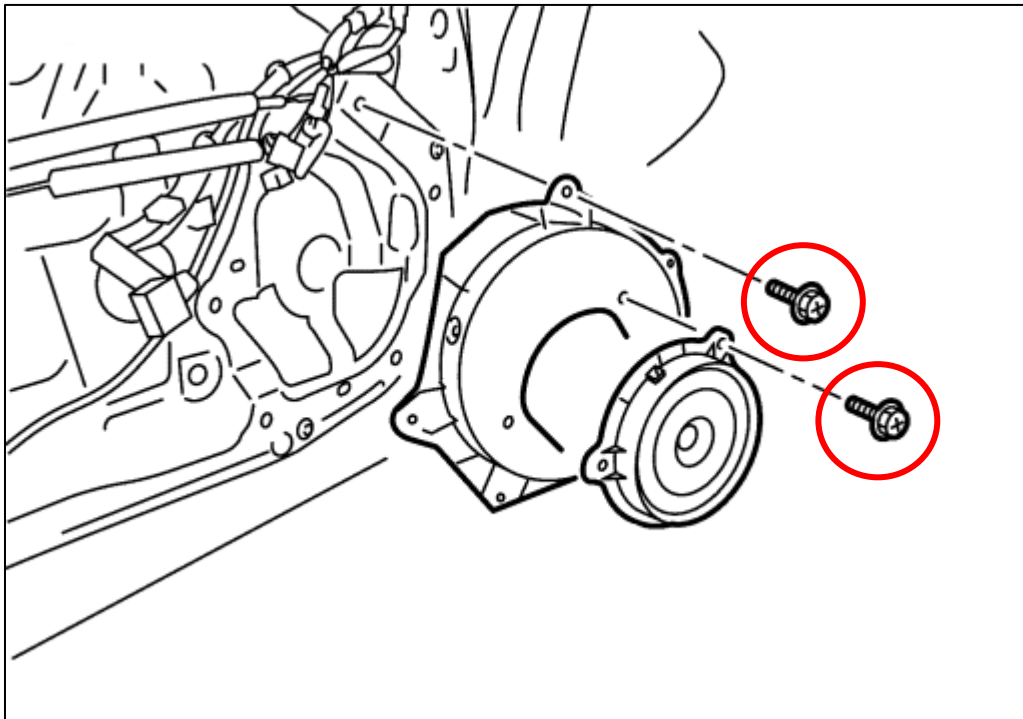

Figure 62
10. Remove the bolts securing the Door Speaker to the Door and remove the Speaker from the Door. *Figure 62.*